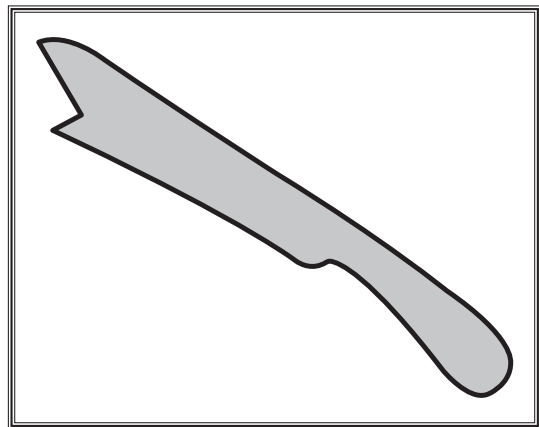

Figure 89. Illustration of a simple push stick.
- **Push Sticks** made from the shop are very popular among table saw owners because they are inexpensive and easy to make. Particularly good are those that keep your hand a safe distance away from the blade, offer stable support and grip, and are comfortable in the hand. **Figure 89** shows an illustration of a simple push stick.